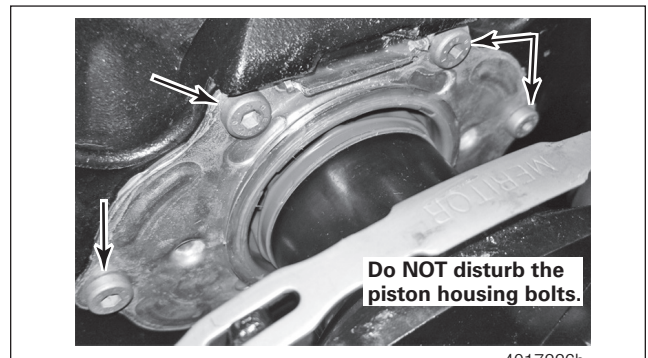

Figure 8.4 Caliper Piston
4. Carefully remove the housing assembly and slide pins from the carrier. Figure 8.4.